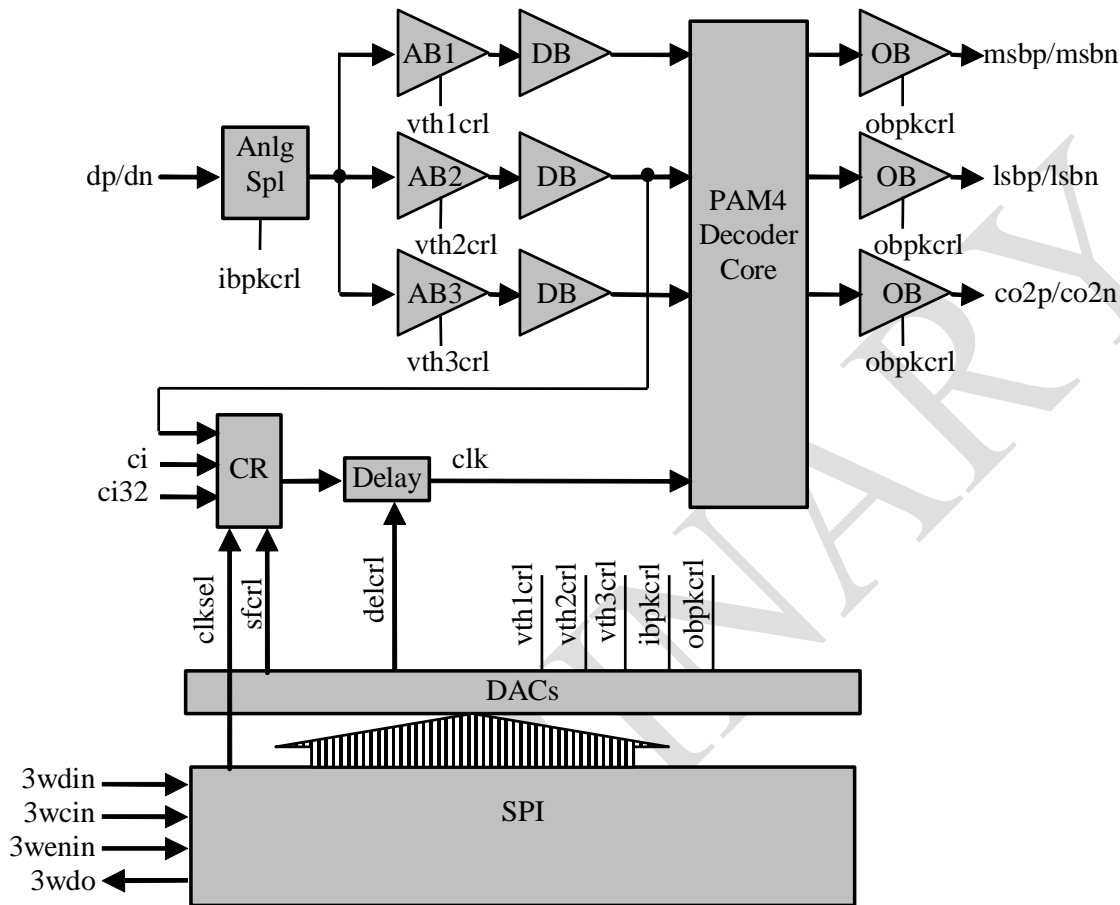

Fig. 1. Functional Block Diagram
The SiGe IC shown in Fig. 1 is a PAM4 decoder with a built-in clock recovery circuit. A high-speed differential PAM4 input data signal **dp/dn** is processed by an analog splitter (Anlg Spl) with peaking adjustment capability. The three versions of the input signal are delivered to three analog buffers (AB1, AB2, and AB3) with adjustable differential thresholds. The resulting signals are converted into binary pulses by the three limiting digital buffers (DBs) and sent to a PAM4 Decoder Core. The output of the second DB is also sent to the clock recovery block (CR) that requires a low-speed reference clock applied to the port **ci32** for correct operation. The part can also operate without clock recovery with an external high-speed clock applied to the port **ci**.